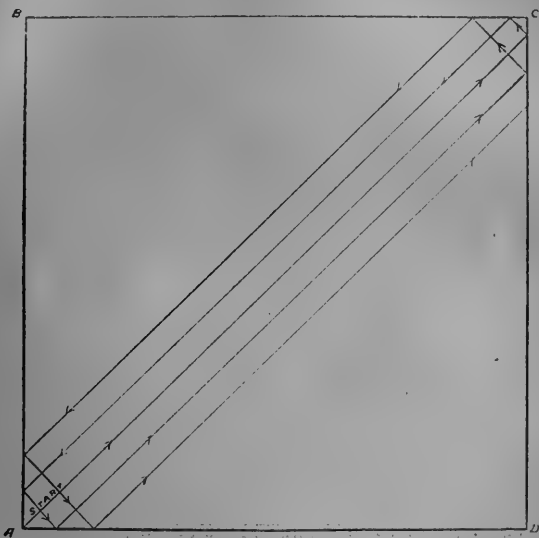

Fig. 2.—Driving plan to avoid driving crosswise of the furrows in fitting the surface seed bed with a floating harrow.
2. A better way is to begin at one corner of the field and drive direct to the corner diagonally opposite, say, from A to C in a field whose corners shall be lettered A, B, C, D. Then return and drive back to the starting point, down the opposite side, across the end, and so on again and again. The short corner gradually lengthens and the long side grows shorter until soon you will be driving around a rectangular block constantly growing longer on one side and shorter on the other. The work is completed by a long "bout" between corners B and D. The actual driving plan is shown in Fig. 2.